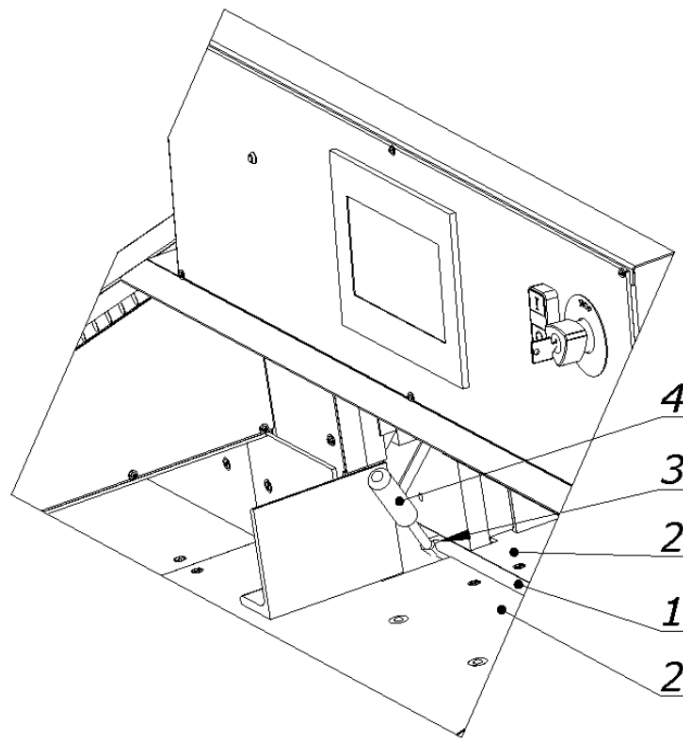

Figure 37. The method of removing cutting stick
1. Cutting stick (1)
2. Table (2)
8.2.1 Lift the stick (1) with a screwdriver (4, fig. 37)
8.2.3. Introduce the replaced stick into the channel between the tables (2) and place it on the dowel (3, Fig.37)